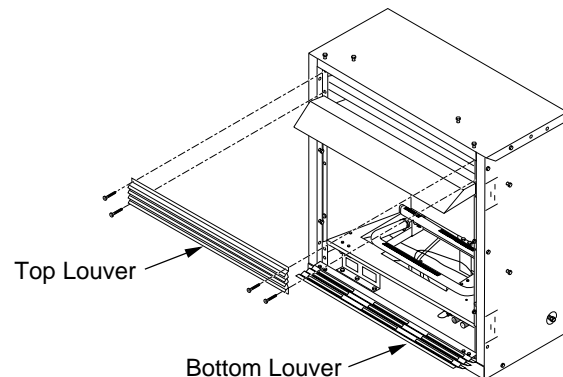

Figure 11 - Removing Top Louver and Opening Bottom Louver
1. Unscrew four screws that attach top louver to fireplace. Remove louver from fireplace and set aside (see Figure 11).
2. Remove 4 screws from upper louver (see Figure 11, page 10). Save these screws.
4. Open lower louver door by swinging door down (see Figure 11, page 10).
10. Reinstall upper louver beginning with bottom screws (see Figure 11, page 10). Close lower louver door.
6. Reinstall upper louver beginning with bottom screws (see Figure 11, page 10) and close lower louver.